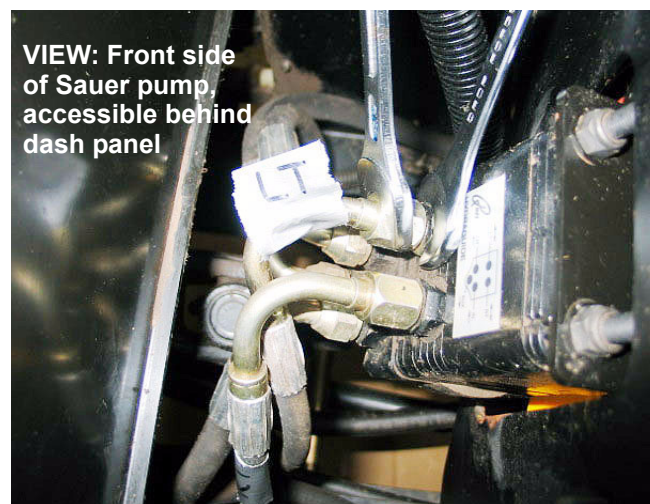

Figure 4.6
- 4.6. Clean the area surrounding the steering pump hydraulic connections and mark the hydraulic lines connected to the steering pump to ease installation: See Figure 4.6.